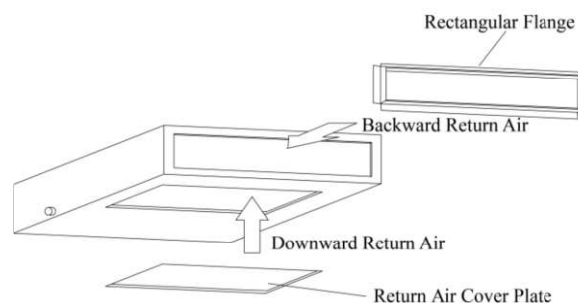

Fig.11
- a. The default installation location of the rectangular flange is in the back and the return air cover plate is in the bottom, as shown in Fig.11.